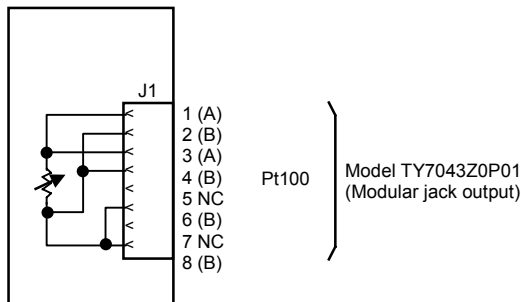

Figure 15. Wiring diagram
- 3) Connect the output lead wires of the Neosensor main unit to the external wires (for the load side). (See Figs. 15 and 16)
- 3) Connect the output lead wires of the Neosensor main unit to the external wires (for the load side). (See Figs. 15 and 16.)
- 4) Connect the output lead wires of the Neosensor main unit to the external wires (for the load side). (See Figs. 15 and 16.)